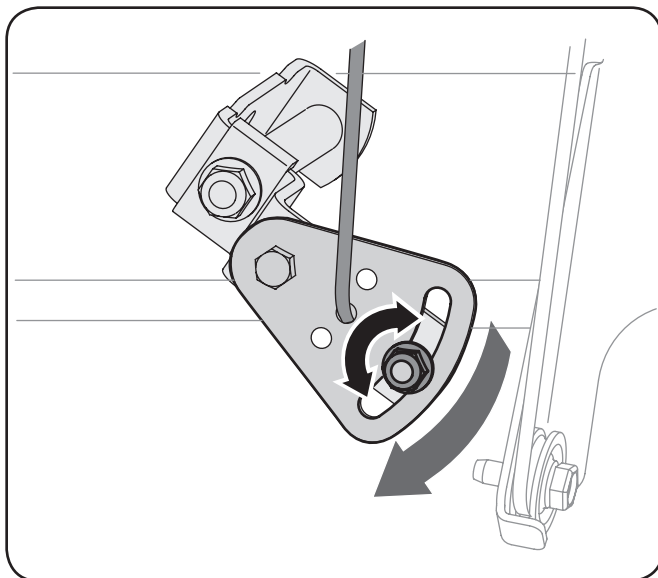

Fig. 6-4
2. Loosen the hex nut on the shift cable index bracket. See Fig. 6-4.